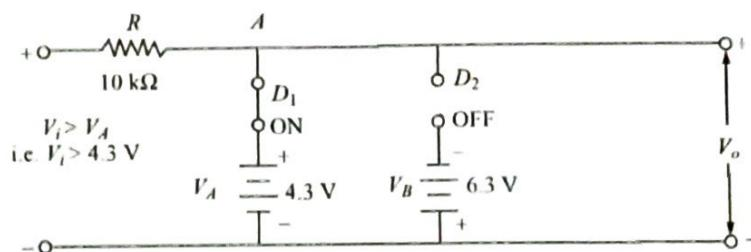

Figure 2.46
**Solution:** When  $V_i$  is greater than  $V_A$ , diode  $D_1$  conducts and  $D_2$  remains OFF and the circuit will be as shown in Fig. 2.46.